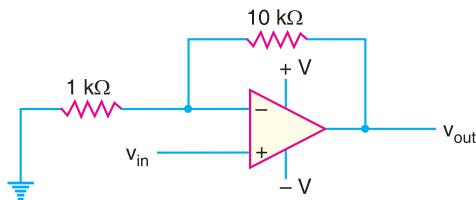

Fig. 25.58
**Example 25.33.** For the noninverting amplifier circuit shown in Fig. 25.58, find the output voltage for an input voltage of (i) 1 V (ii) -1 V.